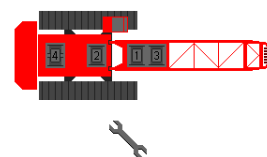

FIGURE 3-31
5. Scroll to and enter the setup screen (Figure 3-31).